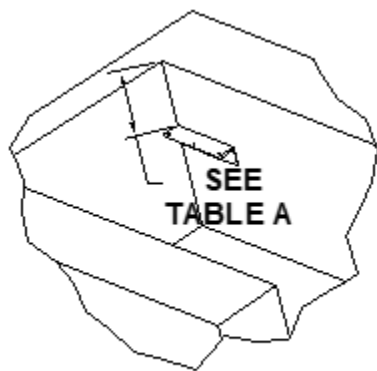

Fig. 1 – Support Location
- a. Create a support structure. This could be the compartment floor or a 1-1/2" wide angle min. 10" long on both sides of opening. See *Fig. 1 and Table A* for location.